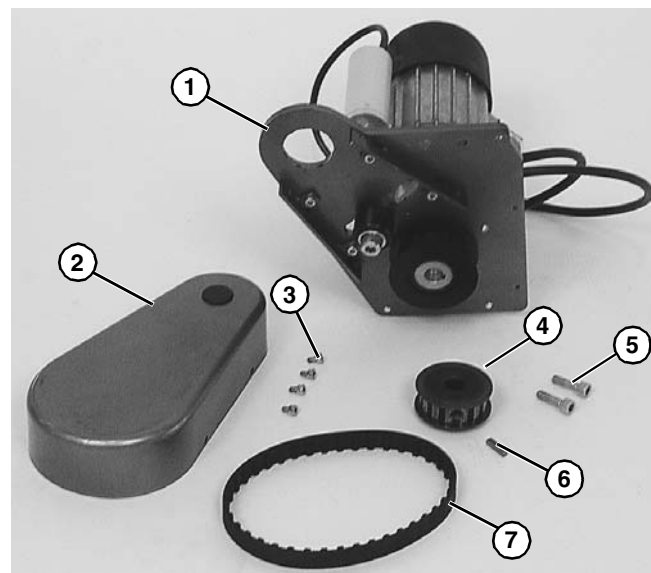

Figure 3
1. Typical components (Figure 3)